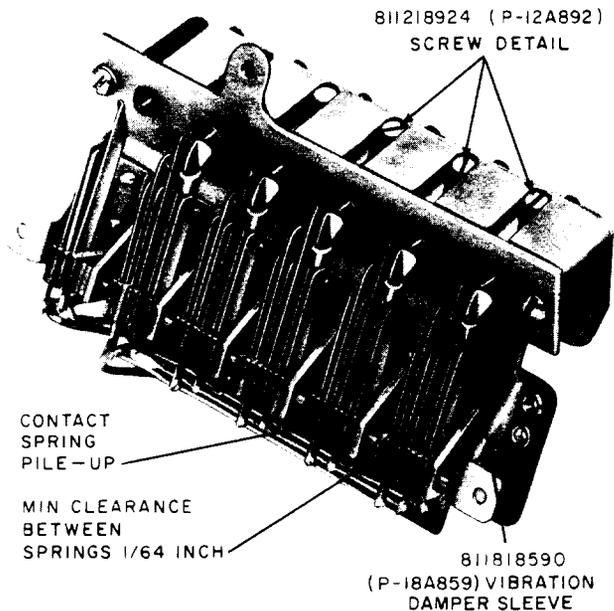

Fig. 14—589-Type Key, Bottom View
- Replacing loose or missing damper studs with 811818590 (P-18A859) vibration damper sleeves (Fig. 14). Later 589-type keys do not require this vibration damper.
3.15 Contact follow and separation is obtained by using a 363 tool at a point adjacent to contact spring pile-up (Fig. 14). When adjusting springs—
- There should be a minimum spring clearance of 1/64-inch between contact springs and those parts of the key which do not make contact with springs (Fig. 14).